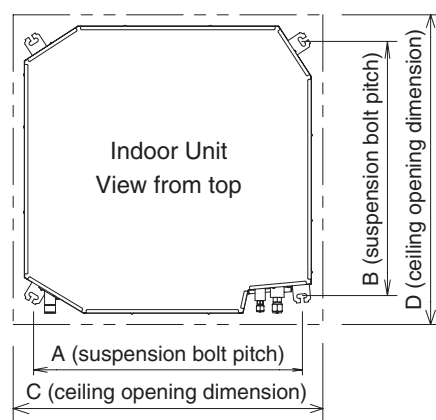

Fig. 2-30
- (2) Follow Fig. 2-30 and Table 2-11 to make the holes in the ceiling.